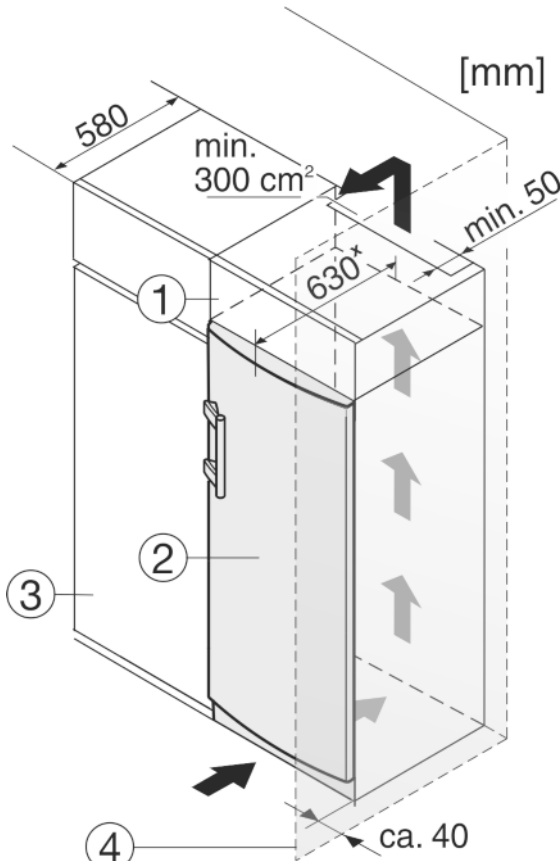

Fig. 9
- (1) Stack cabinet
- (2) Appliance
- (3) Kitchen cabinet
- (4) Wall
The appliance can be inserted into a row of kitchen units. To match the appliance Fig. 9 (2) to the height of the row of units, a suitable stack cabinet Fig. 9 (1) can be fitted above the appliance.
When installing with kitchen units (max. depth 580 mm), the appliance can be positioned directly next to the kitchen cabinet Fig. 9 (3). The appliance will project by 34 mm* at the sides and 50 mm* at the centre of the appliance in relation to the kitchen cabinet front.
If the appliance is installed with the hinges next to a wall Fig. 9 (4), the distance between appliance and wall has to be at least 40 mm. This corresponds to the projection of the handle when the door is open.